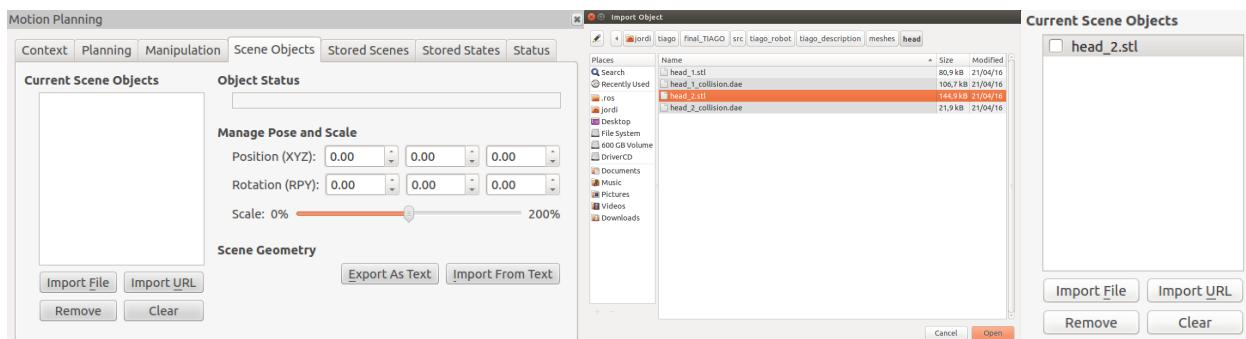

Figure 126: Scene objects tab (left), select the mesh (center), and the object listed in scene objects (right)
1. To add such an object to the planning environment, navigate to the “Scene objects” tab in the planning environment window, then click “Import file” and navigate to the `tiago_description` package, where the mesh of the head can be found in the `meshes/head` folder, as shown in figure 126.